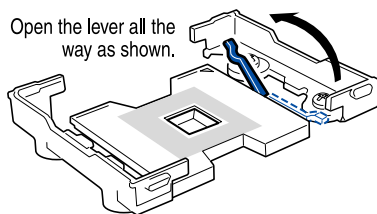

FIGURE 5-16 Opening the Socket Lever
2. **As shown in Figure 5-16, open the socket lever.**